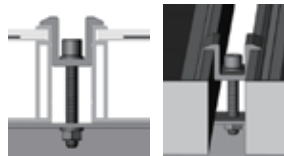

Figure2. SPV module installed with clamp fitting method1
(2) Clamp fitting: Using suitable module clamps on the side of the module frame to mount the modules (including "portrait orientation" and "landscape orientation")
- Applied torque should be 8 Newton-meters. Please find detailed mounting information in Figure 2.